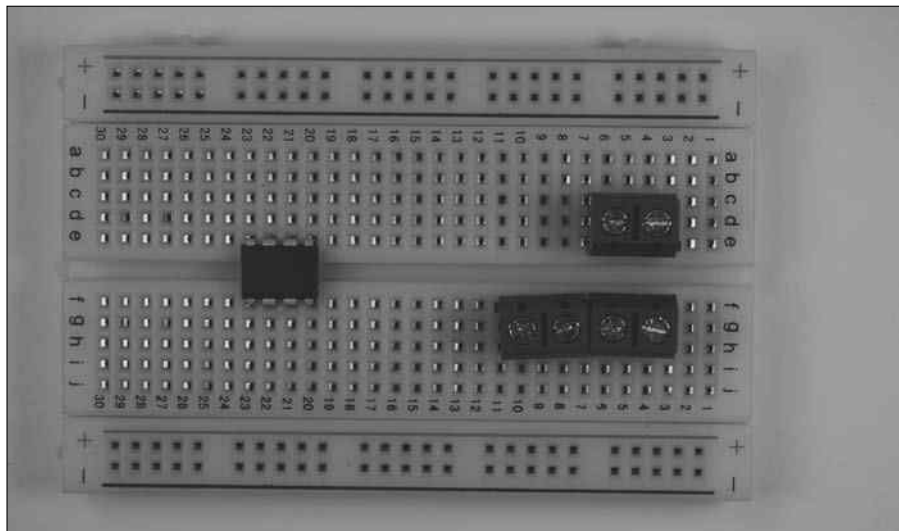

Figure 9-7:
1. Place the LM555 IC and three terminal blocks on a breadboard, as shown in Figure 9-7.